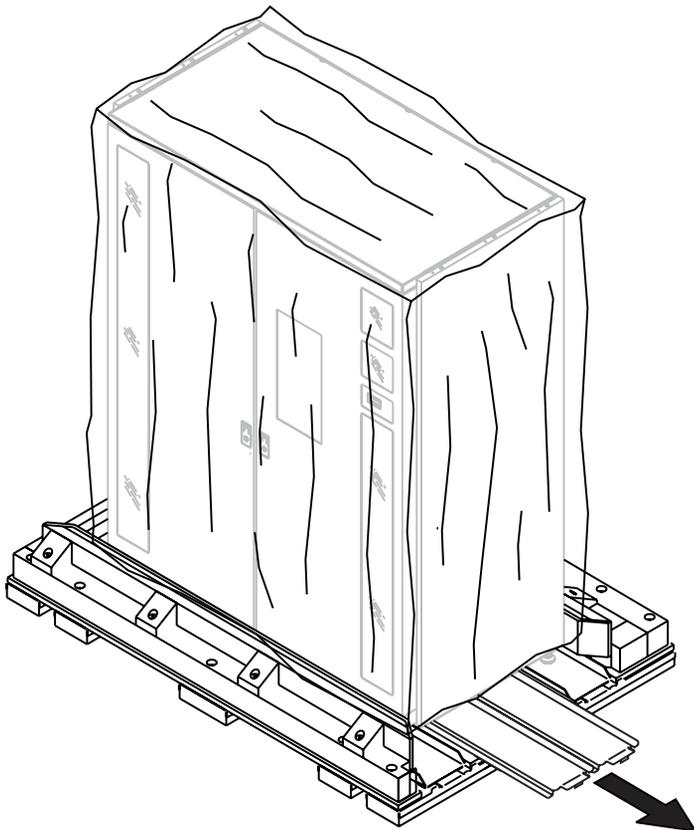

Figure 4-8: Removing the ramp extensions
15. Remove the right wooden bar and then slide the two ramp extensions and the foam block out from under the right side of the library (see Figure 4-8). Set the ramp extensions aside until you are ready to move the library.